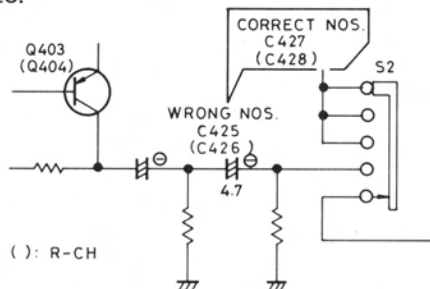

Fig. 1 Phono Amp Circuit (Portion) for RC-1000
2. Page 11, Schematic Diagram for RC-1000, Phono Section, symbol Nos. of the capacitors shown in Fig. 1 are corrected as follows: C425 to C427; C426 to C428.